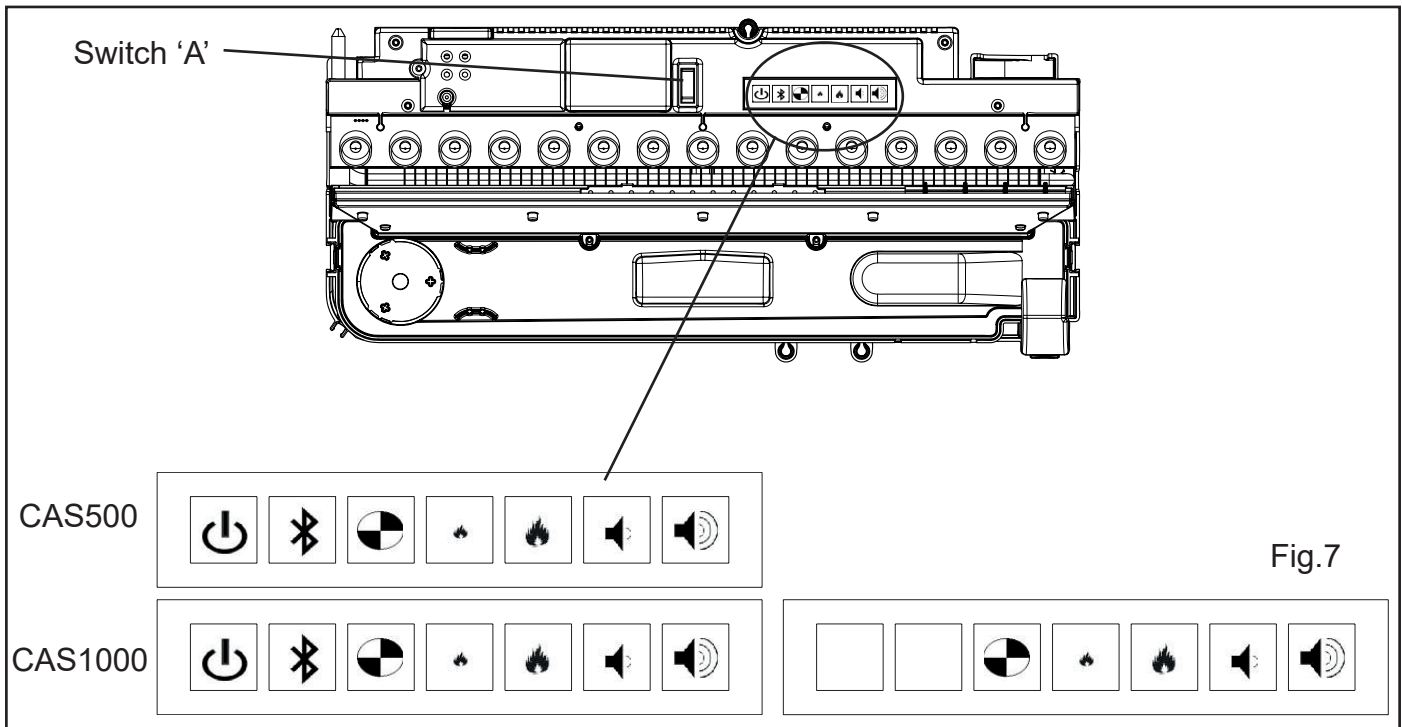

Fig.7
1. Lift off the fuelbed and put switch 'A' into the off position (Fig 7).
The manual controls are located beneath the Fuelbed. (Fig.7)